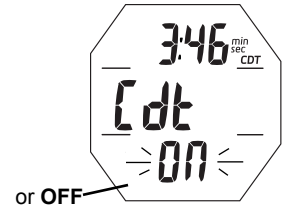

Fig. 25A - CDT SETUP (upon access)
CDT Setup, information includes (Fig. 25A/B/C):
- > Graphic OFF (or ON, or Auto) flashing (Fig. 25A).